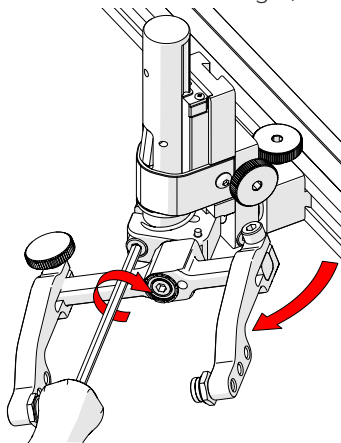

Fig. 116 - Rotate and tighten
- Tighten the transverse adjustment screw (Fig. 116).